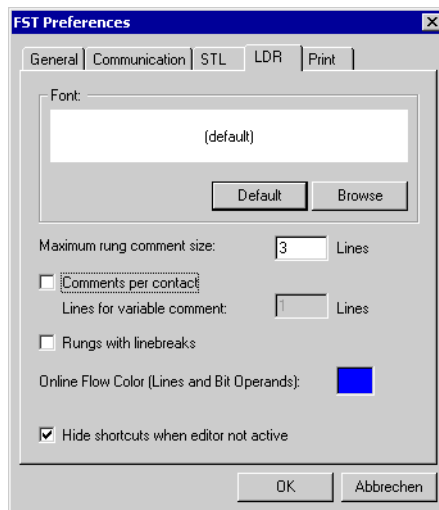

Fig. 4/3: LDR editor preferences
- maximum number of operand comment lines (see also Fig. 4/8)